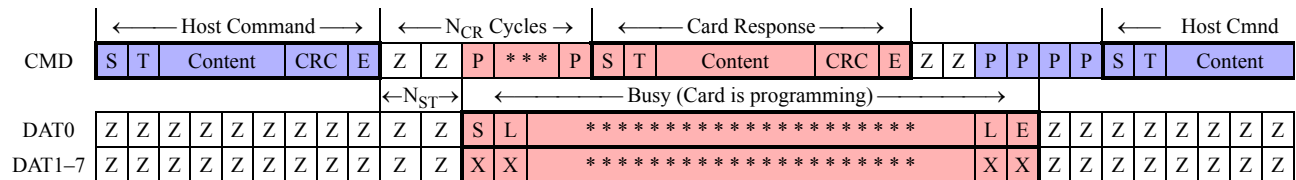

Figure 44 — Stop transmission after last data block; card becomes busy
The stop transmission command works similar as in the read mode. Figure 41 on page 106 to Figure 44 on page 107 describe the timing of the stop command in different card states.
The host must first select the erase groups to be erased using the erase start and end command (CMD35, CMD36). The erase command (CMD38), once issued, will erase all selected erase groups. Similarly, set and clear write protect commands start a programming operation as well. The card will signal “busy” (by pulling the DAT0 line low) for the duration of the erase or programming operation. The bus transaction timings are identical to the variation of the stop transmission described in Figure 44.
- When a busy card which is currently in the dis state is reselected it will reinstate its busy signaling on the data line DAT0. The timing diagram for this command / response / busy transaction is given in Figure 44.